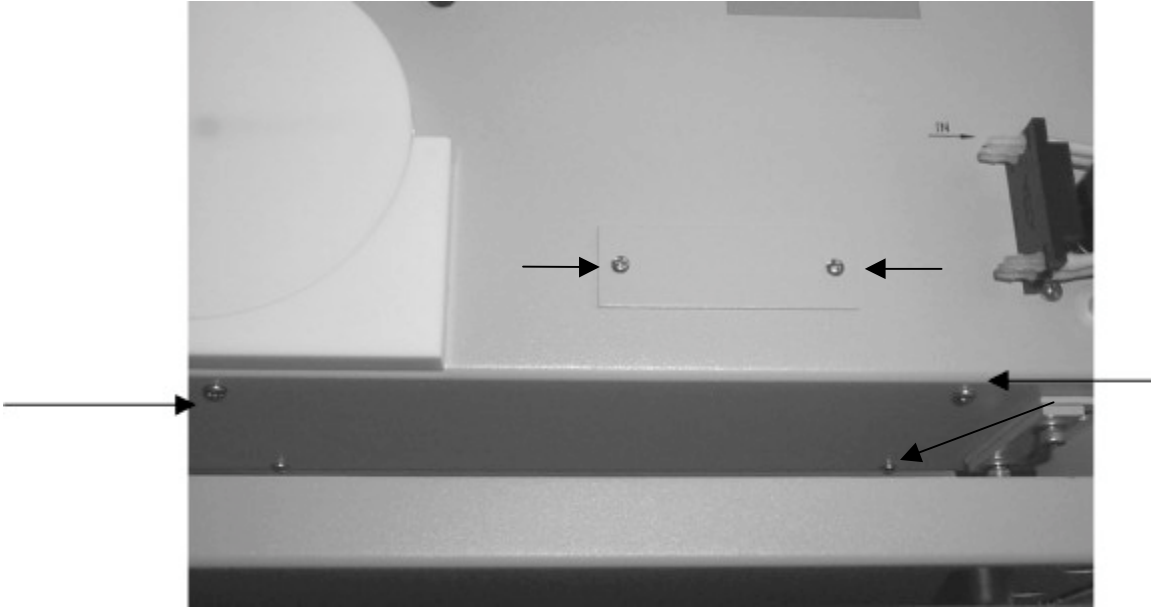

Figure 1-13. Bottom rear view of the ASX-510.
10. Remove the back two screws that attach to the bottom of the Main board. Also, remove the two screws holding the back spacer panel. See Figure 1-13.